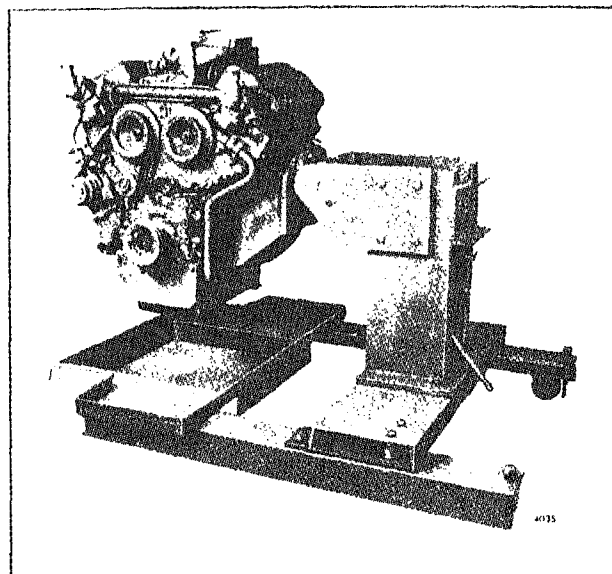

Fig. 9 - Engine Mounted on Overhaul Stand
The hydraulically operated overhaul stand (Fig. 9) provides a convenient support when stripping a cylinder block. The engine is mounted in an upright position. It may then be tipped on its side, rotated in either direction 90° or 180° where it is locked in place and then, if desired, tipped back with either end or the oil pan side up.
18. Place the side of the cylinder block against the adaptor plate on the overhaul stand (Fig. 9). Use adaptor plate J 7622 (In-Line engine), with overhaul stand J 6837-01.